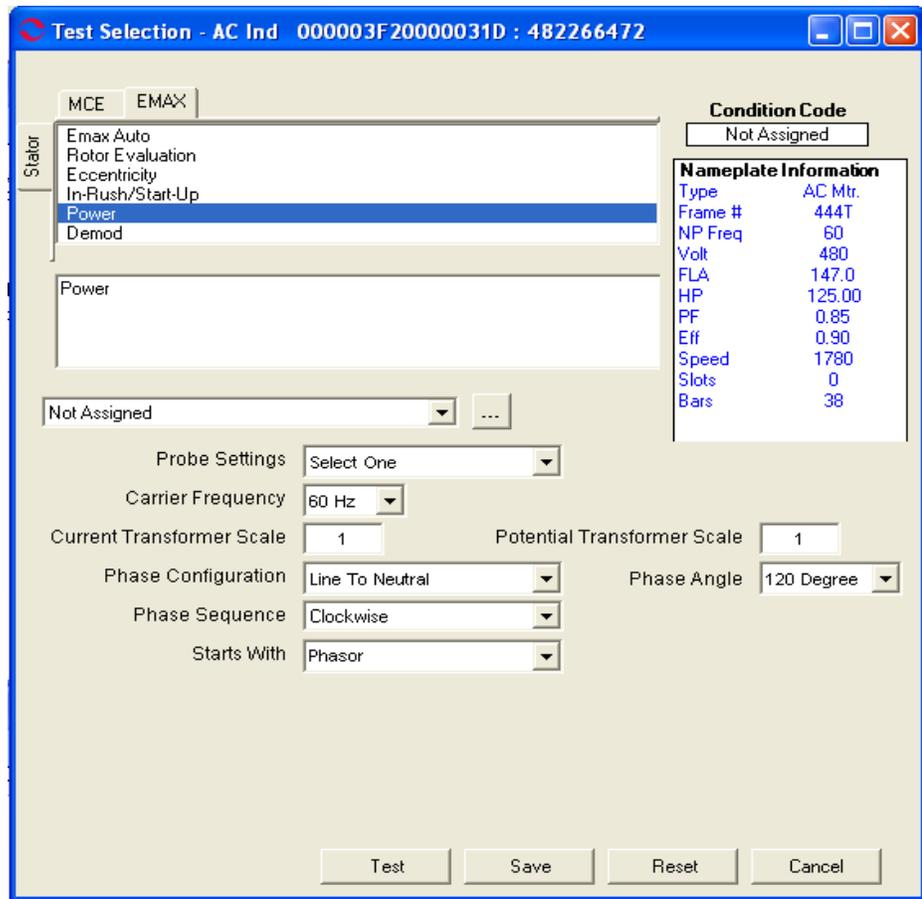

Figure 7-6: Power Test Selection Window - AC Asset
4. Select the Test Selection icon  on the toolbar. The Test Selection window, shown in Figure 7-6 opens